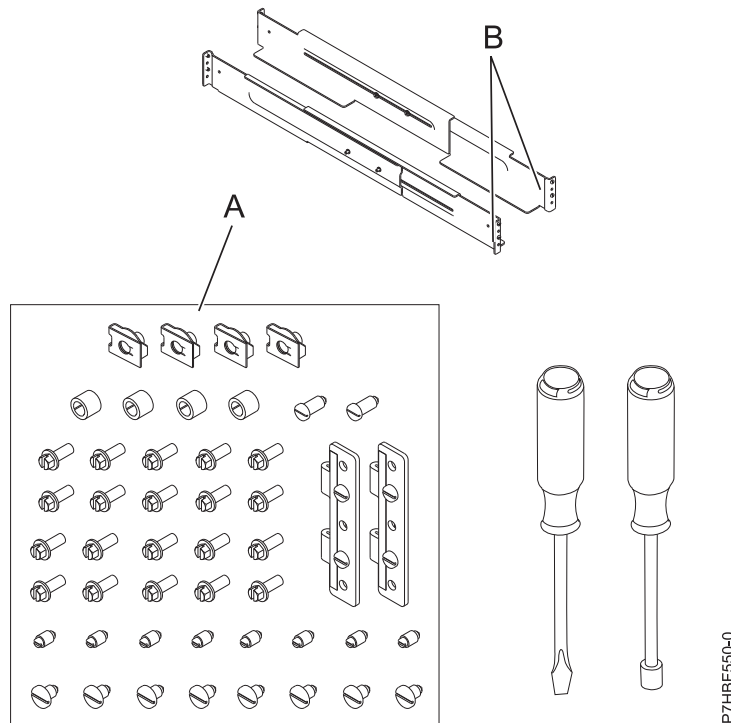

Figure 59. Parts inventory
3. Locate the rack-mounting hardware kit (A) and the system rail assemblies (B) that were included with your expansion unit. See Figure 59 for the relative locations of these items. The system rails are identical.